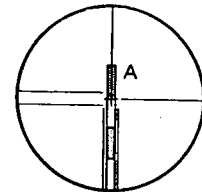

Fig. 22
- d. Guide the target A into the field of view. Tighten the lower clamp ⑬. Sight the target A with the lower fine motion ⑩. The target A is now in the direction of $0^{\circ}0'00''$, Fig. 22.